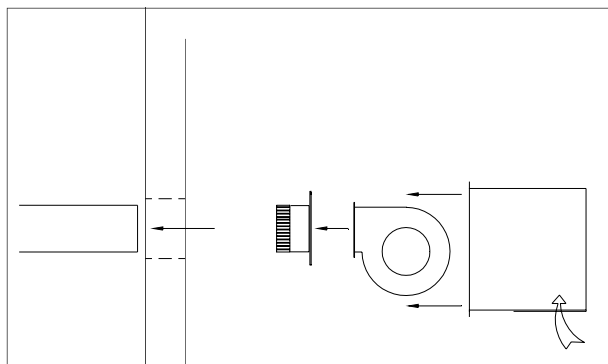

Figure 8 -Mounting the Blower System
- 2) Reach in through the blower adapter hole and gently pull out any excess flex-duct. Cut the flex-duct leaving about 8" protruding past the exterior of the home. If the chase is brick, 1/4" holes must be marked and drilled into the brick, about 1 & 1/2" in depth, and insert the fluted anchors provided (see figure 8).